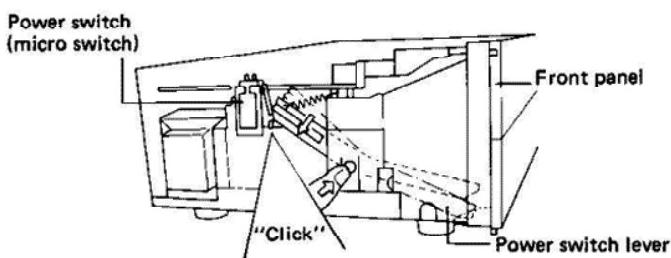

Fig. 5-3 Power Switch Setting
- Press the micro switch (power switch) ON as shown in Fig. 5-3, and then the START/STOP switch.
The PL-X7 has been designed to switch the power on and off when the front panel is opened and closed respectively. After the front panel has been mounted, the power switch is set by pressing the micro switch end of the power switch lever in the direction of the arrow by forefinger while holding the pivot of the lever by thumb with the front panel closed. The switch is set when a "click" sound is heard. Note that the slide base is in the housed position at this time (see Fig. 5-3).